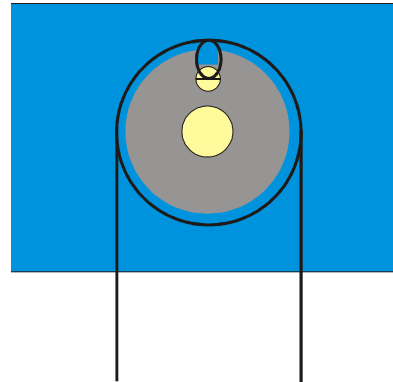

Fig. 8: Schematic illustration of how the thread is wound around the pulley of the displacement sensor
- Loosen the screw on the displacement sensor's pulley. Wind a thread once around the pulley and lead it out of the recess placing a loop around the screw. Use the screw to fix the thread in place (see Fig. 8).